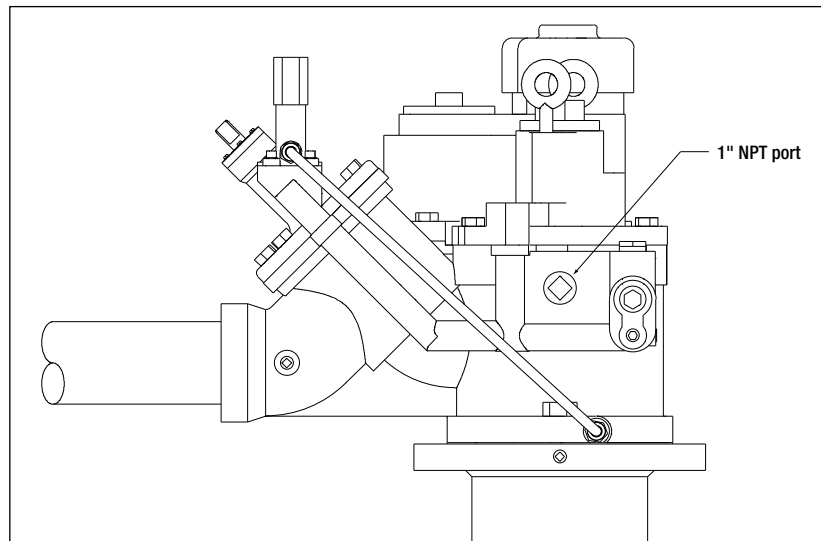

Figure 15. Maxxum STP Adapter Assembly Port
2. Remove the square drive plug from the 1" port in the STP. (see Figure 15).
4. Thread the street elbow into the 1" NPT port shown in Figure 15 and tighten securely. Orient the elbow in the vertical position to accept the Maxxum STP adapter.